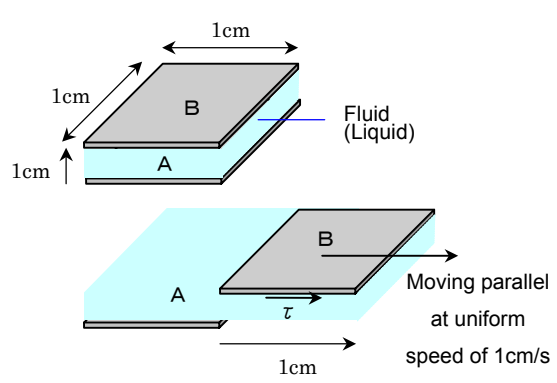

Figure 4 Geometric Definition of Viscosity
As shown in Figure 4, where stress τ exerted on board B (inside) of unit area $1 cm^2$ is $1[dyne/cm^2]$ when the distance between board A and board B is 1cm and it is filled with liquid, and only board B is being moved parallel at a speed of 1cm/second (shear rate $D = 1[s^{-1}]$), according to the equation (3) $\eta = \tau / D$, viscosity η of this liquid is given as 1 poise [P], or according to the equation (7), as 0.1 Pascal second $[Pa \cdot s]$.